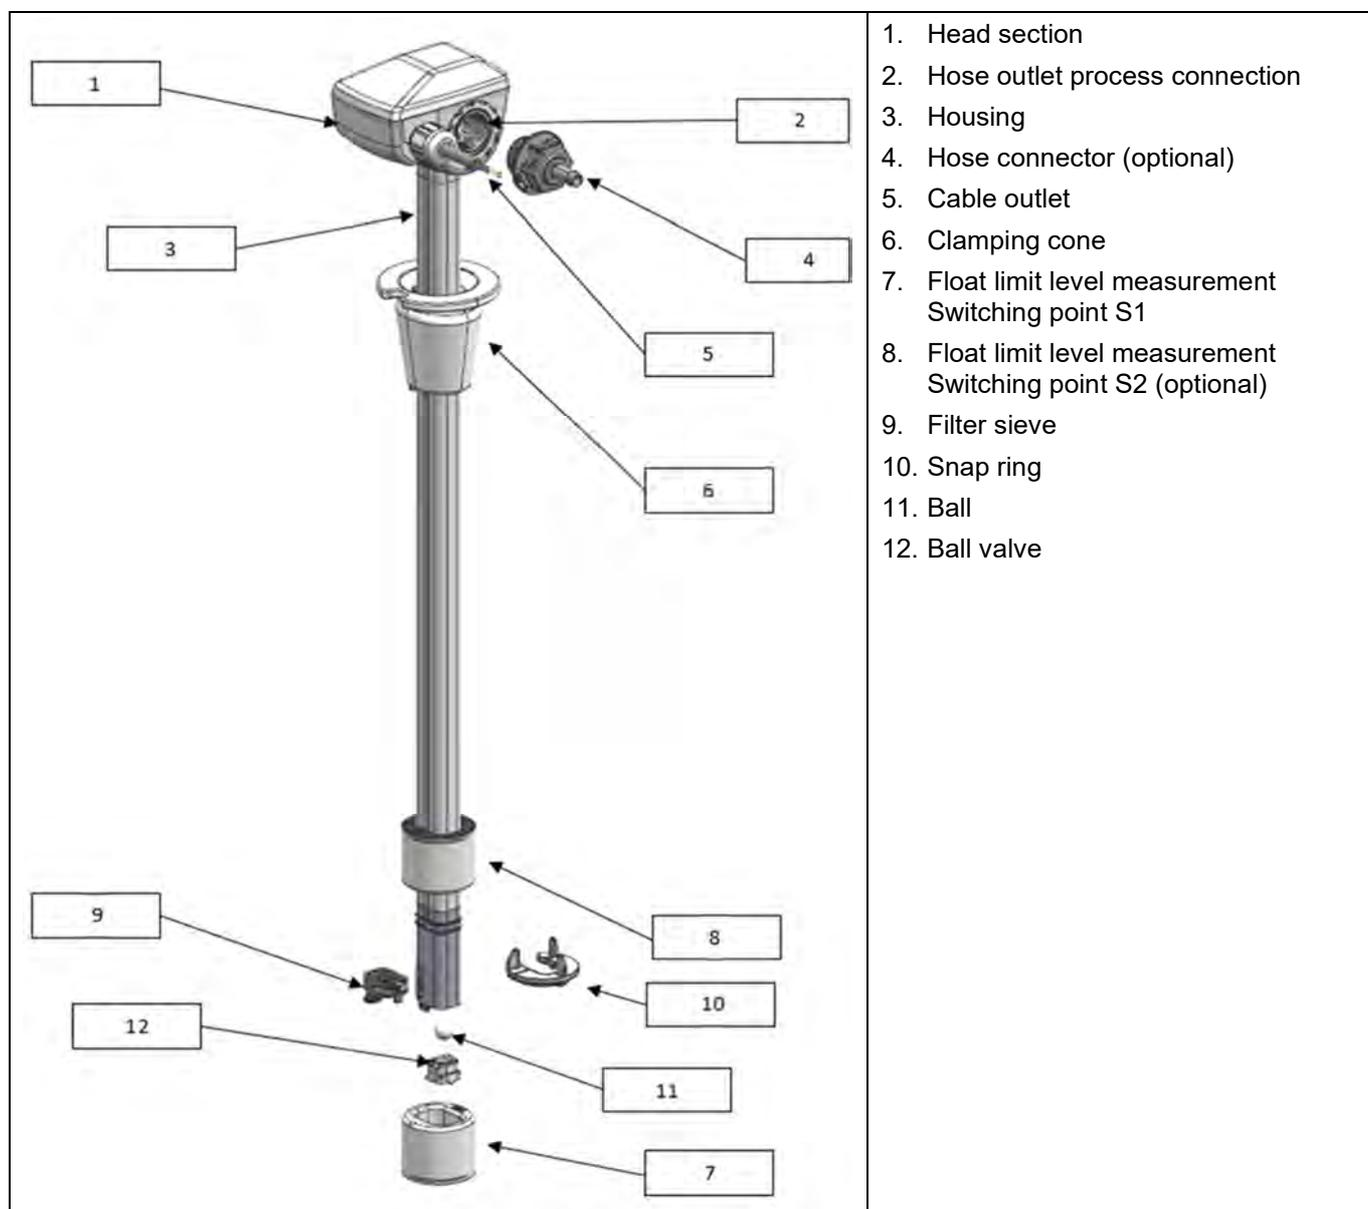
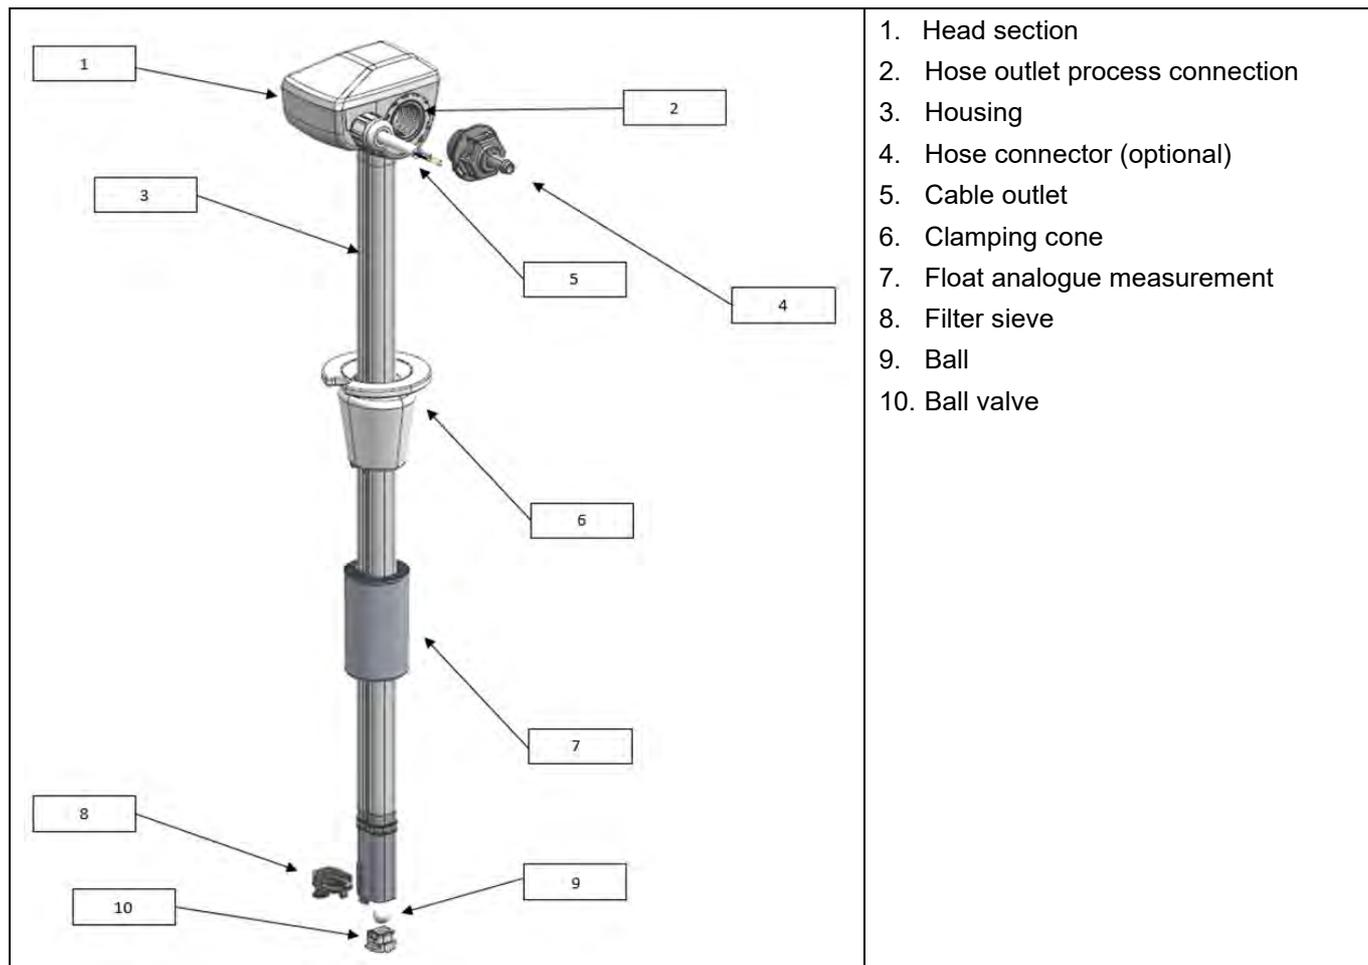

Figure 4
Figure 5
The float (Figure 4, item 7 and item 8 as well as Figure 5, item 7) with integrated magnet moves up and down depending on the fill level. This activates a reed switch. Depending on the switching function of the reed switch, the signal is output either on a rising or falling level.
eloLance SL2D1 variants have one float (Figure 4, item 7), e.g. for the empty signal of a container. eloLance SL2D2 variants have 2 floats (Figure 4, item 7 and item 8), e.g. for the pre-empty and empty signal of a container.
eloLance SL2R variants have a continuous level measurement with an extended measuring range, which is detected by means of a float (Figure 5, item 7) and reed grid.
The integrated filter sieve (Figure 4, item 9 and Figure 5, item 8) ensures that the eloLance and the attached system are protected from coarse foreign bodies and impurities.
The overrun brake consists of a freely movable ball (Figure 4, item 11 and Figure 5, item 9) and the ball valve (Figure 4, item 12 and Figure 5, item 10). The overrun brake prevents larger quantities from discharging after the eloLance has been removed from the container.
The eloLance is connected to a hose (not included in the scope of delivery) and the downstream system (e.g. dosing pump) at the head section by means of a hose connector (Figure 4 and Figure 5, item 4).
- ▶ Insert the hose connector (Figure 4 and Figure 5, item 4) into the G3/8" thread. Observe the tightening torque of 3.4 Nm \pm 0.3 Nm to ensure leak-tightness.
- ▶ Hold the eloLance by the head section (Figure 4 and Figure 5, item 1) and screw the container lid tightly to the container thread.
- ▶ Hold the eloLance by the head section (Figure 4 and Figure 5, item 1) and push it into the desired position (height adjustment).